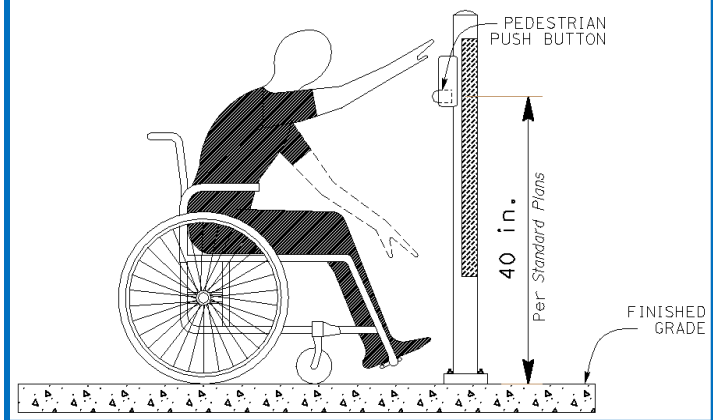

Figure 16 High Forward Reach (ADAAG)
- The pedestrian push button must have an unobstructed forward reach. For the exact height of the button, refer to the *Standard Plans*. (See Figure 16.)